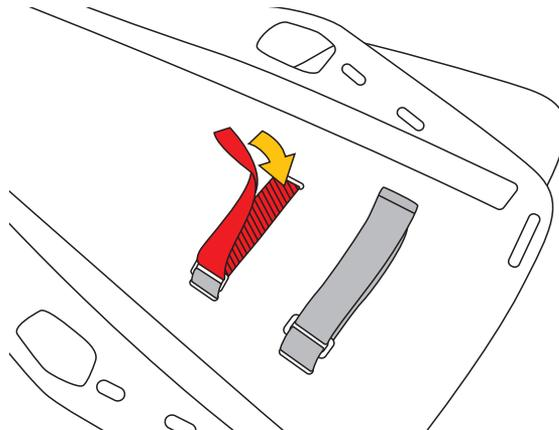

Fig.5
b) Attach the head immobiliser by pulling and overlapping the Velcro straps on the underside of the spinal board (fig. 5).